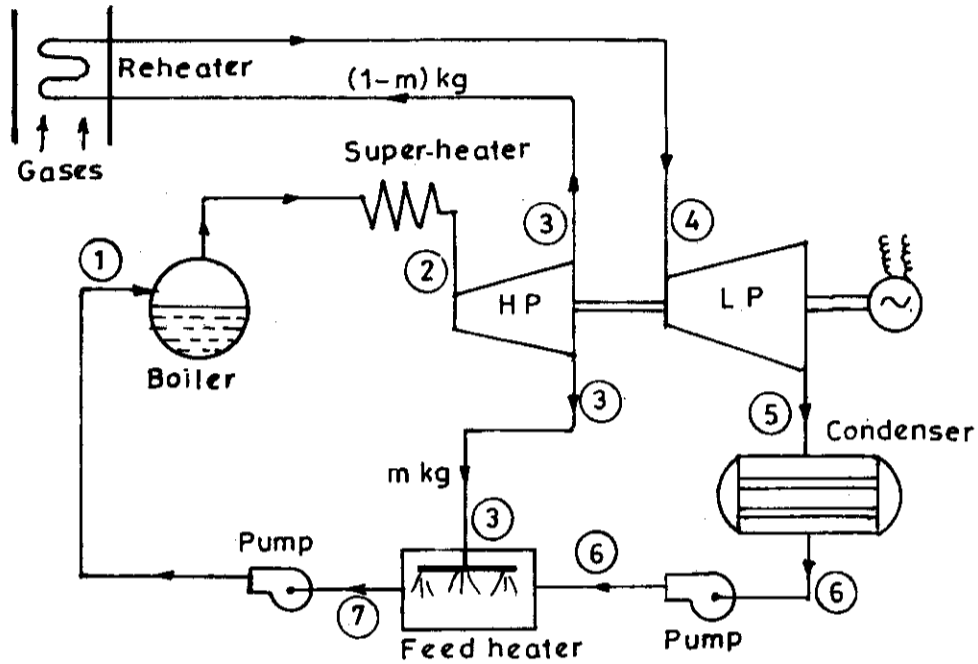

Fig. Prob. 22.19 (a).
**Solution.** The arrangement of the system is shown in Fig. Prob. 22.19 (a) and processes on  $T-s$  and  $h-s$  are represented as shown in Fig. Prob. 22.19 (b) and Fig. Prob. 22.19 (c).